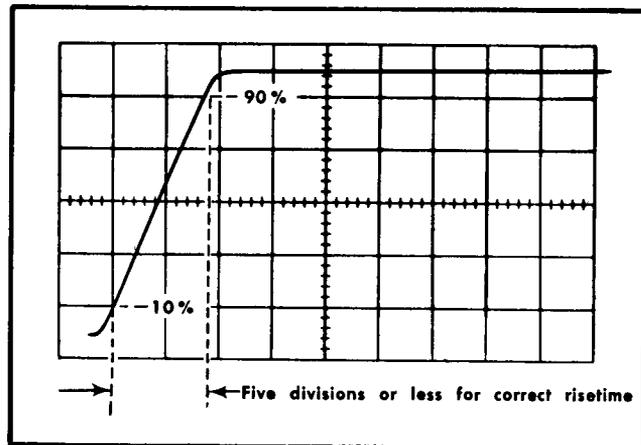

Fig. 5-30. Typical CRT display when checking calibrator risetime.
d. CHECK-CRT display for five divisions or less between the 10% and 90% points on the leading edge of the calibrator waveform (one microsecond or less risetime; see Fig. 5-30),